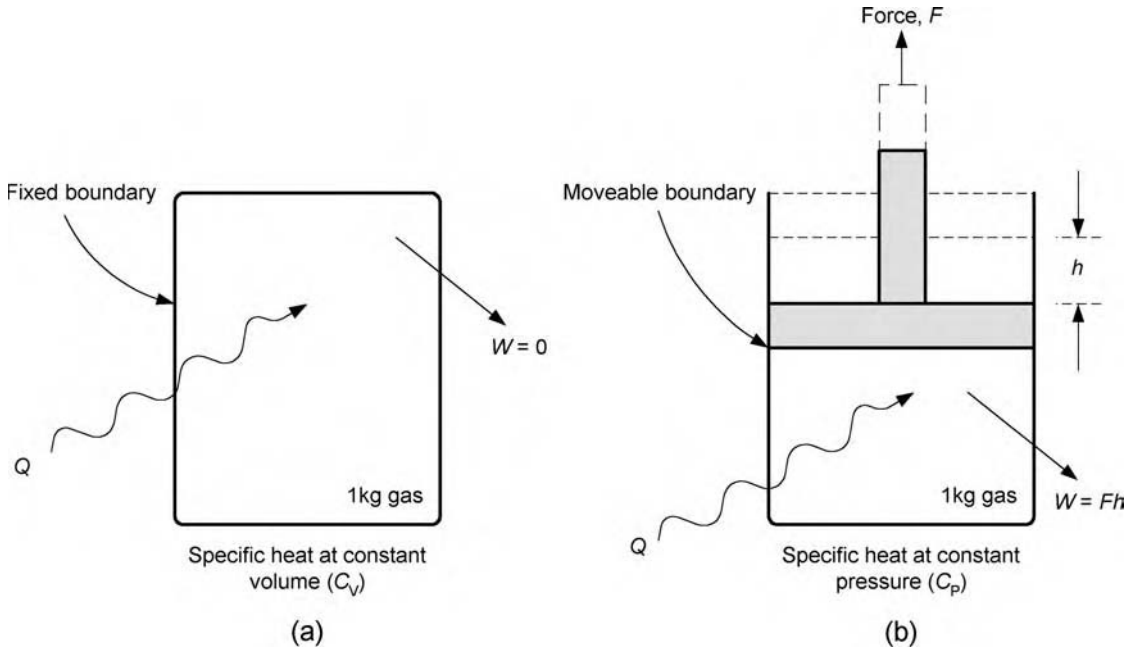

Figure 4.100 Comparison of constant volume and constant pressure specific heats.
If 1 kg of a gas is supplied with an amount of heat energy sufficient to raise the temperature by 1°C or 1 K while the volume of the gas remains constant, then the amount of heat energy supplied is known as the **specific heat capacity at constant volume** and is denoted by c_v . Note that under these circumstances (Figure 4.100(a)) no work is done, but the gas has received an increase in internal energy (U). The specific heat at constant volume for air (c_v air) is 718 J/kgK, this constant is well worth memorizing!